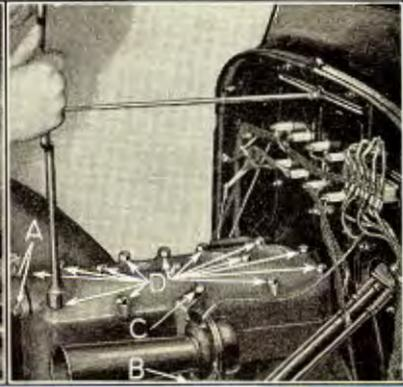

Fig. 218
- 365 Run out the two cylinder head outlet connection screws (See "A" Fig. 218). Remove horn by running out cylinder inlet connection screw "B" and cylinder head bolt "C". Run out the remaining 14 cylinder head bolts "D" from cylinder block and lift off cylinder head and gasket.
- 374** Install horn by running in the two bolts which hold horn to cylinder inlet connection and cylinder head (See "B" and "C" Fig. 218).
- 375** Insert cylinder head outlet connection gasket between cylinder head and outlet connection and run in the two screws which hold outlet connection to cylinder head (See "A" Fig. 218)